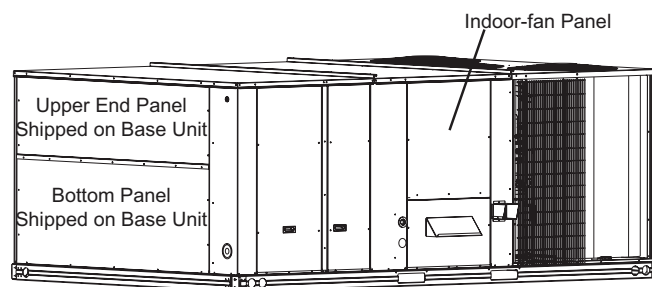

Fig. 1 — Upper and Bottom Panel on End of Unit
2. Remove the upper-end panel shipped on the HVAC unit. (See Fig. 1.) The return air chamber of the unit will be exposed. Save the screws for later use. The upper-end panel can be discarded. The bottom panel remains in its shipping position.